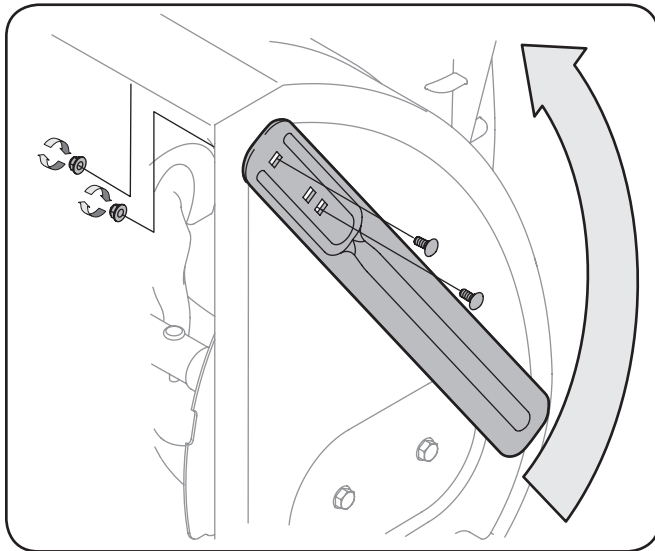

Figure 3-8
1. Remove the four flange nuts (two on each side) and carriage bolts. Place drift cutter in upright position and re-secure. See Figure 3-8.